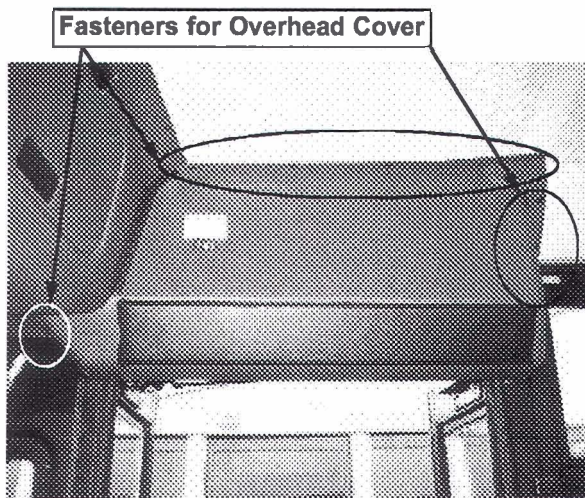

Figure 1 - Built prior to 9/21/09
2. On units built prior to 9/21/09, remove the entrance door overhead cover. This is done by removing the nine (9) fasteners located at the front, top and rear of the cover. **Figure 1.** On units built on or after 9/21/09, remove the three access panel screws and lower the panel. **Figure 2**